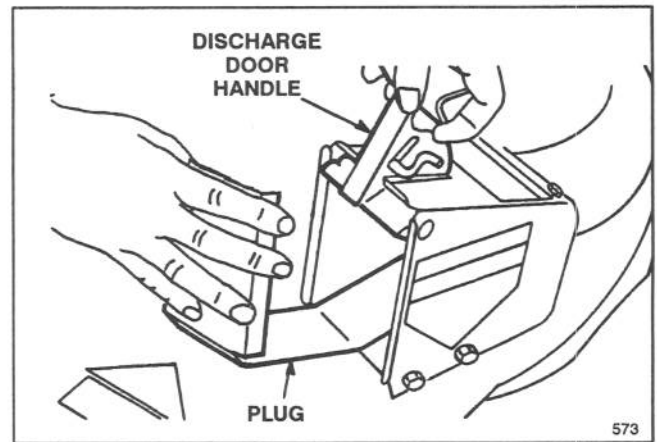

Figure 6
2. A rotating motion is required to insert the plug into the discharge tunnel. Begin by rotating the plug slightly to the left to insert it into the tunnel. As you slide the plug further into the tunnel, rotate the plug to the right (Fig. 6).